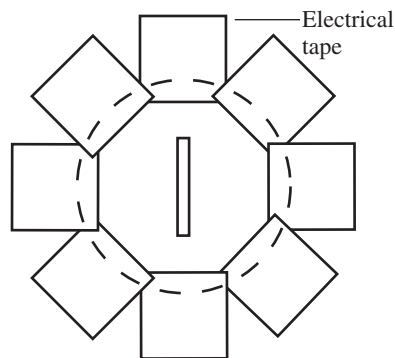

Figure 3.
10. Press pieces of electrical tape firmly around the edges of the circle with the slit, *but do not fasten to the tube yet*. Use enough tape to completely cover the edge of the circle (see Figure 3).